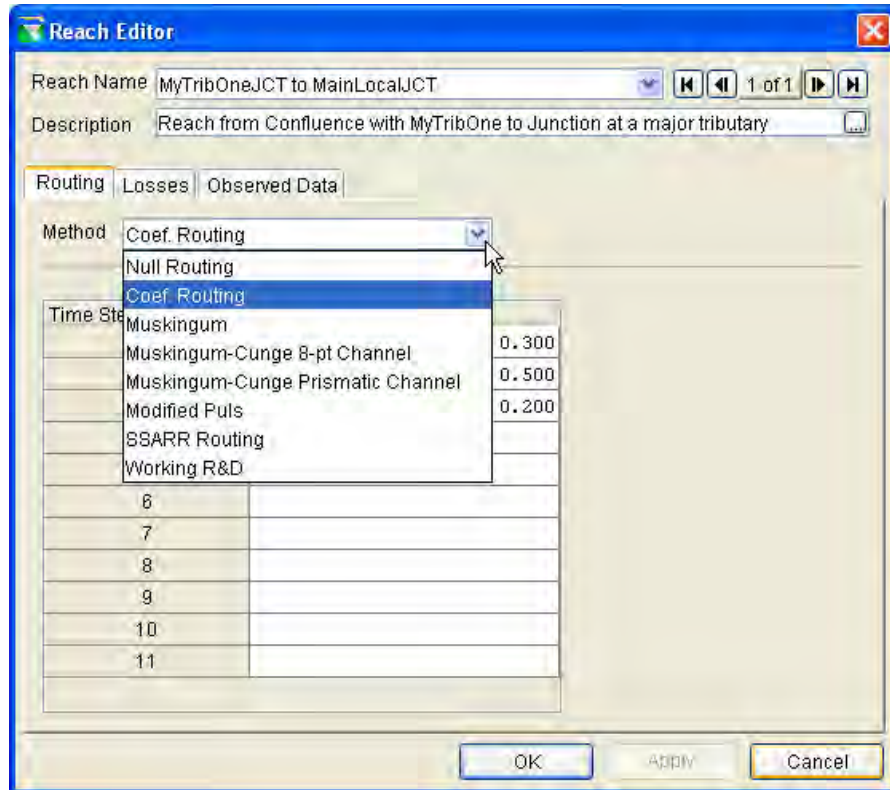

Figure 18 – Reach Editor
- Edit Reach Properties.** With the reach tool  or the pointer tool  selected, right-click on the desired reach and select **Edit Reach Properties**. Select the routing method from the **Method** list (as shown in Figure 18) and fill in the necessary parameters for the selected routing method. The default routing method is **Null Routing** (no route).